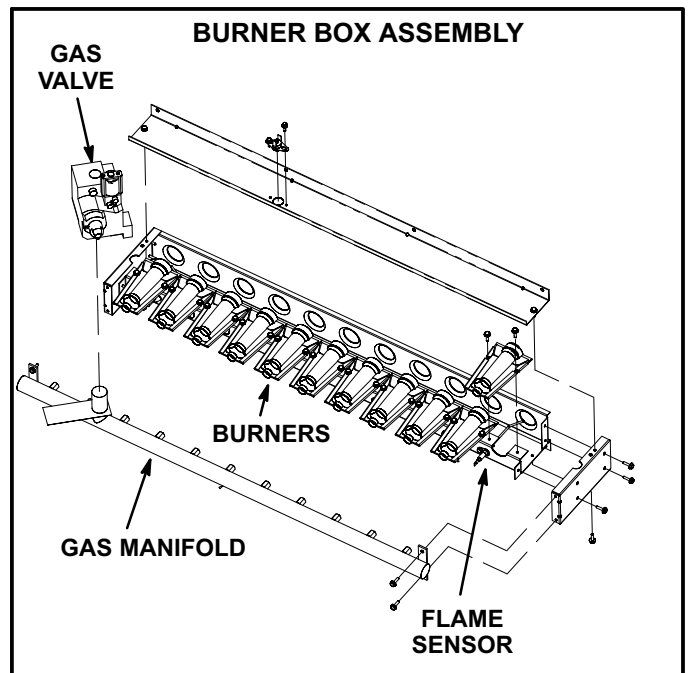

FIGURE 27
- 3- Remove two screws securing burners to burner support and lift the burners from the orifices. See figure 27. Clean as necessary.